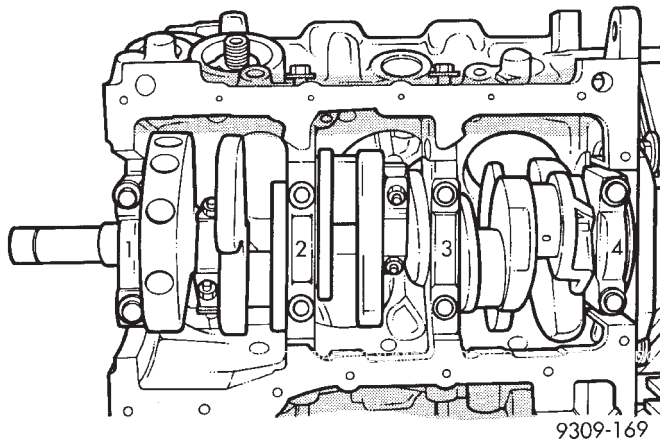
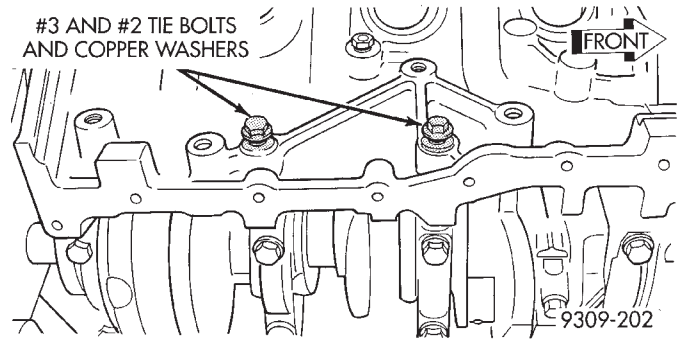

Fig. 41 Main Bearing Cap Identification
Fig. 43 Crankshaft Main Cap Tie Bolts
(6) Remove lower timing belt cover.
(7) Remove main timing belt cover.
(8) Remove left side timing belt cover.
(9) Remove crankshaft damper. Refer to procedure in this section.
(10) Remove timing belt tensioner and timing belt.
(11) Remove crankshaft sprocket. Refer to Front Crankshaft Oil Seal Removal and Installation for procedure.
(12) Tap dowel pin out of crankshaft. Refer to Front Crankshaft Oil Seal Removal and Installation for procedure.
(13) Remove oil pump assembly.
(14) Remove rear crankshaft oil seal retainer.
(15) Remove connecting rod bearing caps. Connecting rod bearing caps are not interchangeable and should be marked at removal to insure correct assembly.
(16) Remove main bearing caps. Main bearing caps are not interchangeable and should be marked at removal to insure correct assembly (Fig. 41).
(17) Remove Crankshaft.
(2) Install each main cap and tighten bolts finger tight.
(3) Tighten number 1, 3 and 4 main cap bolts to 41 N·m + 1/4 Turn (30 ft. lbs. + 1/4 Turn) (Fig. 41). Then tighten the #3 tie bolts to 54 N·m (40 ft. lbs.) (Fig. 43).
(4) Rotate the crankshaft until number 6 piston is at TDC.
(5) To ensure correct thrust bearing alignment the following procedures must be done:
(6) Move crankshaft all the way to the rear of its travel.
(7) Then, move crankshaft all the way to the front of its travel.
(8) Wedge a appropriate tool between the rear of the cylinder block and rear crankshaft counterweight. This will hold the crankshaft in it's most forward position.
(9) Tighten the #2 Thrust Bearing cap bolts to 41 N·m + 1/4 Turn (30 ft. lbs. + 1/4 Turn). Then tighten the #2 tie bolts to 54 N·m (40 ft. lbs.). Remove the holding tool.